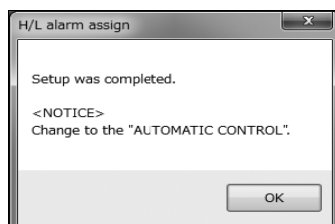

Fig.61
- ⑤ Click "OK" to change the settings to the selected values, and then click the "OK" button in the displayed message box (Fig. 61) to complete the setting process.